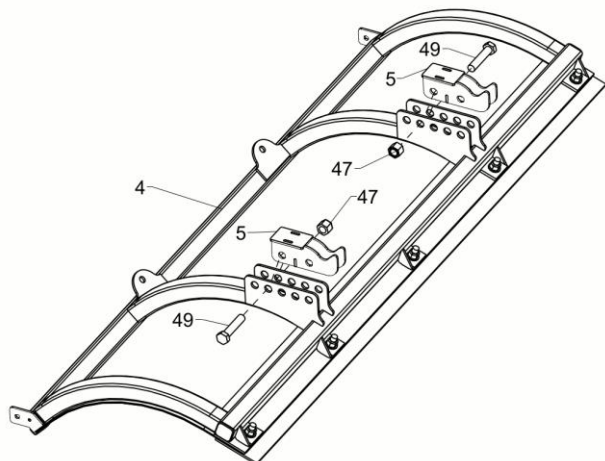

Figure 2. Adjustable Blade Mount Assembly G10749
1. Align both Blade Mounting Brackets (5) with Blade Assembly (4). Assemble them in to the centermost position as shown in Figure 2 (this position may need to be adjusted depending on vehicle height).
2. Loosely attach using two 5/8"-11 x 3" Hex Head Cap Screws (49) and two 5/8"-11 Self-Locking Nuts (47).